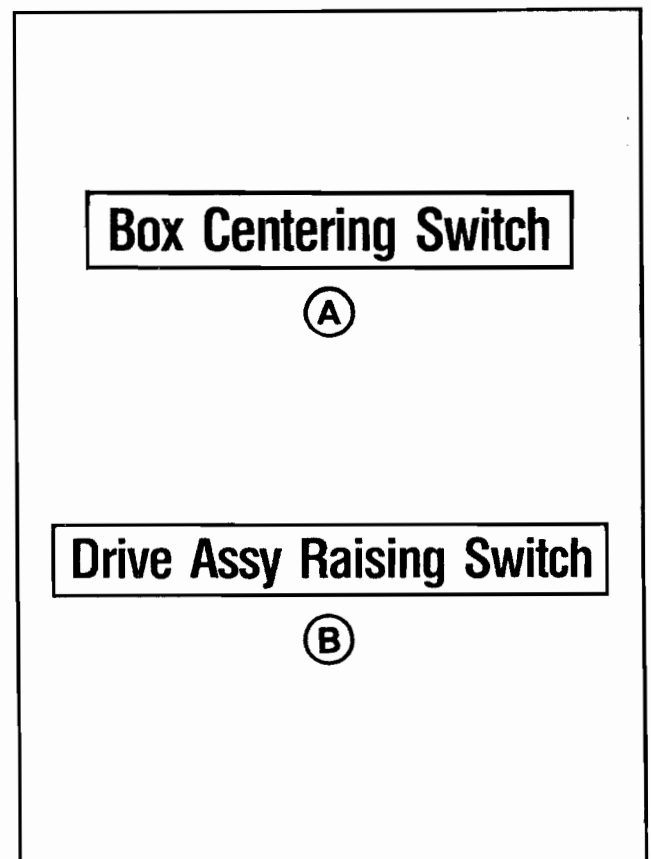

Figure 1-12 – Box Centering Switch/Drive Assembly Raising Switch
The "Box Centering Switch" label, (A) shown in Figure 1-12, is attached to the center plate on the machine bed at the infeed end. The label identifies the box centering switch.
The "Drive Assembly Raising Switch", label (B) shown in Figure 1-12, is located above the switch which is at the front of the upper taping head frame. The label identifies the drive assembly raising switch.